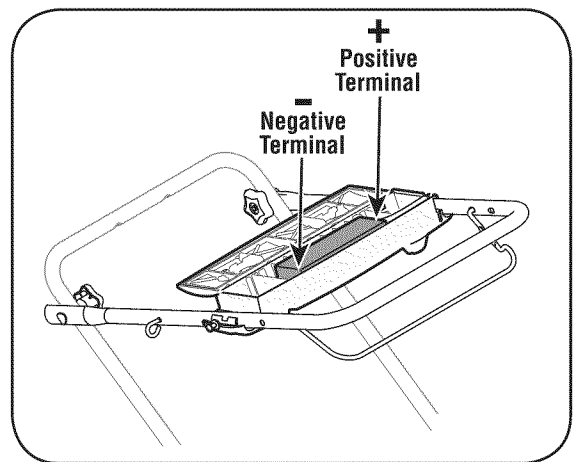

Figure 9
3. Open battery cover, remove positive and negative leads from battery, remove and replace with new battery, Figure 9. Connect the positive lead to the positive side of the battery pack, then connect the negative side.
NOTE: The battery you have may differ slightly from the one shown in Figure 9. Refer to the Parts List.
IMPORTANT: When replacing battery pack in handle panel, battery pack must be positioned with the positive terminal to the left side and the negative terminal to the right side of panel (Positive terminal is closest to the key switch), Figure 9. Replacing battery pack incorrectly will cause serious damage.